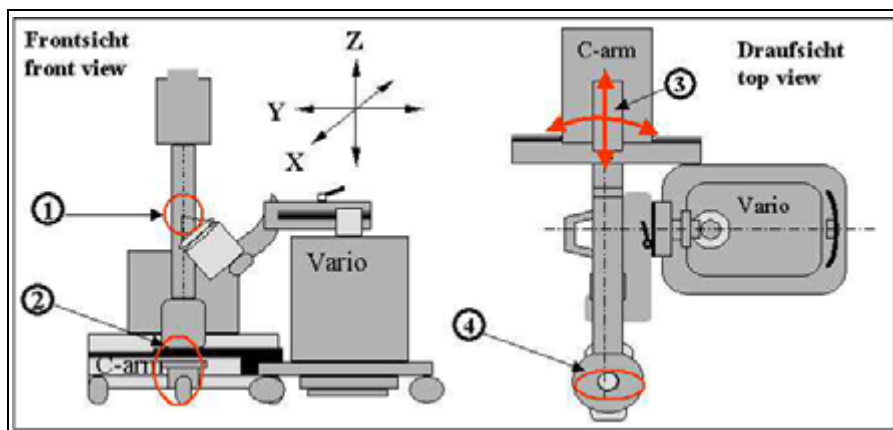

Fig. 34: Iso-center 01
4. Fix the C-arm to 0° vertically at the height of 1070 (+/- 20mm) (1/Fig. 34 / p. 32)
- Dock the Vario to the C-arm unit (2/Fig. 34 / p. 32)
Adjust the X direction via the horizontal forward and reverse movement of the C-arm (3/Fig. 34 / p. 32)
Adjust the Y direction via the horizontal pivot movement of the C-arm (3/Fig. 34 / p. 32)